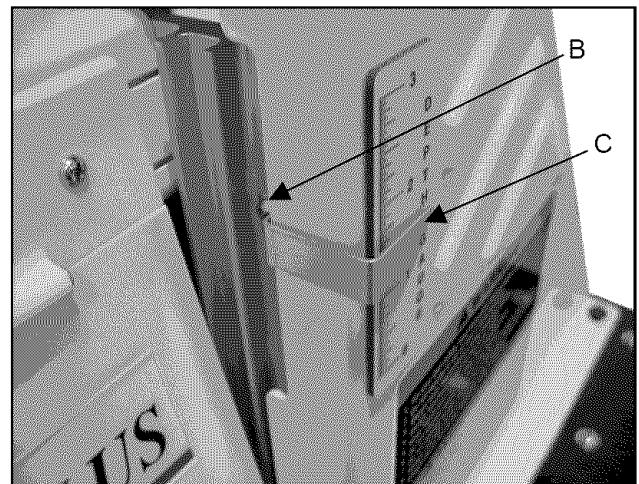

Figure 18
2. Loosen the screw (Figure 18, Item B).
3. Adjust the pointer (Figure 18, Item C) to read zero and tighten the screw.